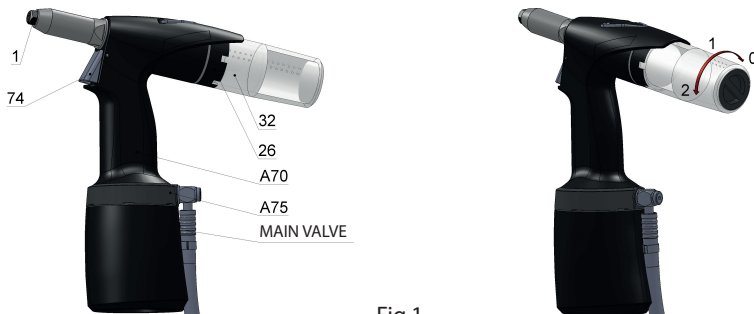

Fig.1
The manufacturer equipped the tool with a nose-piece /fig.1 – pos.1/ for a rivet Ø 5,0. Riveting with blind rivets of different diameters (further on referred to as BR) requires use of appropriate nose-pieces that are located in the accessories casing of the tool.
**Replacement of nose-pieces:** Connect the tool to the source of compressed air, depress the trigger and screw out the nose-piece /fig.1 – pos.1/ with a spanner no. 12. Screw on a new nose-piece /acc. to the chart/ and tighten it. Now you can release the trigger of the tool.
The tool is equipped with revolving air supply /fig.1 – pos.A75/ which enables manipulation with air supply before as well as during tool operation, air hose does not obstruct riveting in any position.
The tool is equipped with multifunction trigger /fig.1 - pos.74/ which enables following:
- Unlock the trigger (shifting the trigger down to the stop) and release it. The suction is switched on and the trigger is in position see fig. 1.
The tool is equipped with a multifunctional mandrel container /fig.1 - pos.32/ which has the following positions:
Put and push the mandrel container /fig. 1 - pos. 32/ into the ring relief /fig.1 – pos.26/ end-to-end, thus you depress the arrestment element, and turn to position 1 or 2. The mandrel container shall thus be in place. The suction shall initiate in position 2. Relative position of the mandrel container with air outlets /fig.1 - pos.32/ and the ring relief /fig.1 – pos.26/ ensures that the outlet air pressure goes out in a suitable direction (e.g. offward the operator of the tool).
Turn the mandrel container /fig.1 - pos.32/ end-to-end to position 0 and pull it out of the ring relief /fig.1 – pos.26/. The suction shall thus switch off.
Suction switches off by turning and removing the mandrel container /fig.1 - pos.32/. Insert BR into the riveting tool through the nose-piece hole. Depress the trigger to move the jaws offward the BR head. The movement ends when reaching max. stroke, correct BR with respect for material gauge shall tear off the shank (riveting) for one stroke of the tool. Releasing the trigger shall return the jaws to initial position and released torn-off shank can be removed from the nose-piece by tilting the tool. /fig.1 - pos.1/.
Mounting and turning the mandrel container /fig.1 - pos.32/ to position 1 shall arrest it. Insert BR into the riveting tool through the nose-piece hole. Depress the trigger to move the jaws offward the BR head. The movement ends when reaching max. stroke, correct BR with respect for material gauge shall tear off the shank (riveting) for one stroke of the tool. Releasing the trigger shall return the jaws to initial position and the released torn-off shank can be transported into the mandrel container by tilting the tool.
Suction switches on by turning the mandrel container /fig.1 - pos.32/ to position 2. In this position the suction holds BR in the nose-piece /fig.1 - pos.1/ which enables riveting in any position without danger of BR falling out of the nose-piece of the tool. Depressing the trigger shall perform riveting. Releasing the trigger shall transport the shank into the mandrel container. If the mandrel container